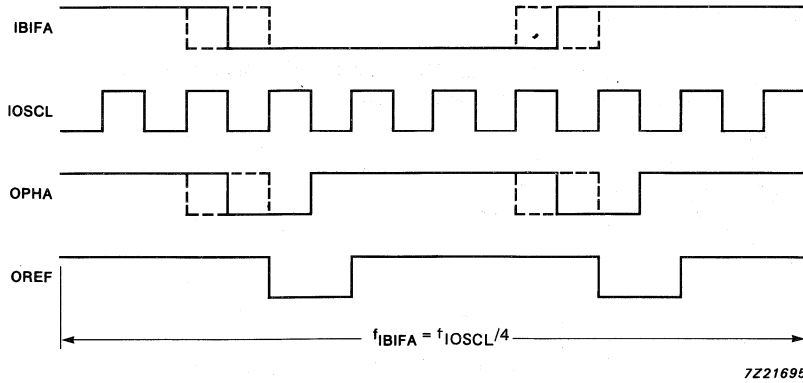

Fig.3 Generation of phase output signal (OPHA) and phase reference signal (OREF); $f_{IBIFA} = f_{IOSCL}/4$.
- Generates a phase output signal (OPHA) and a phase reference signal (OREF). If the frequency of the biphasic input signal (IBIFA) equals 1/4 of the system clock frequency ($f_{\text{OSCL}}/4$) then the IC generates OPHA and OREF as shown in Fig.3. If the frequency of the biphasic input signal (IBIFA) is greater or less than 1/4 of the system clock frequency then the IC generates OPHA and OREF as shown in Fig.4.